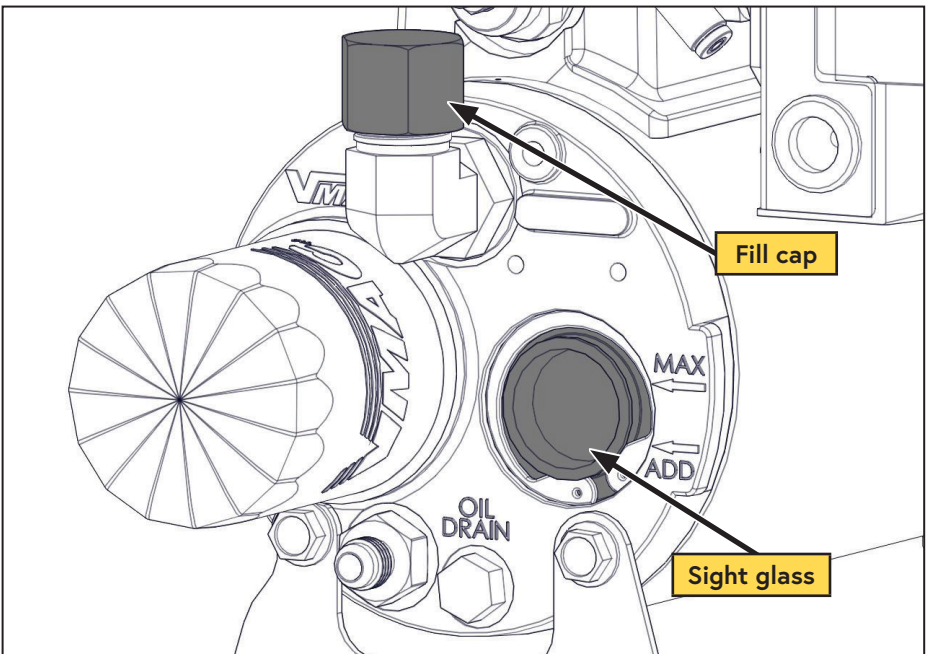

Figure 26 — Filling the WHASP Tank
- Remove the fill cap on the WHASP Tank (above the sight glass) (Figure 26).
- Using a funnel, pour oil into the tank until the oil level in the sight glass reaches the "MAX" line. **The system capacity is 4 L** (Figure 26).